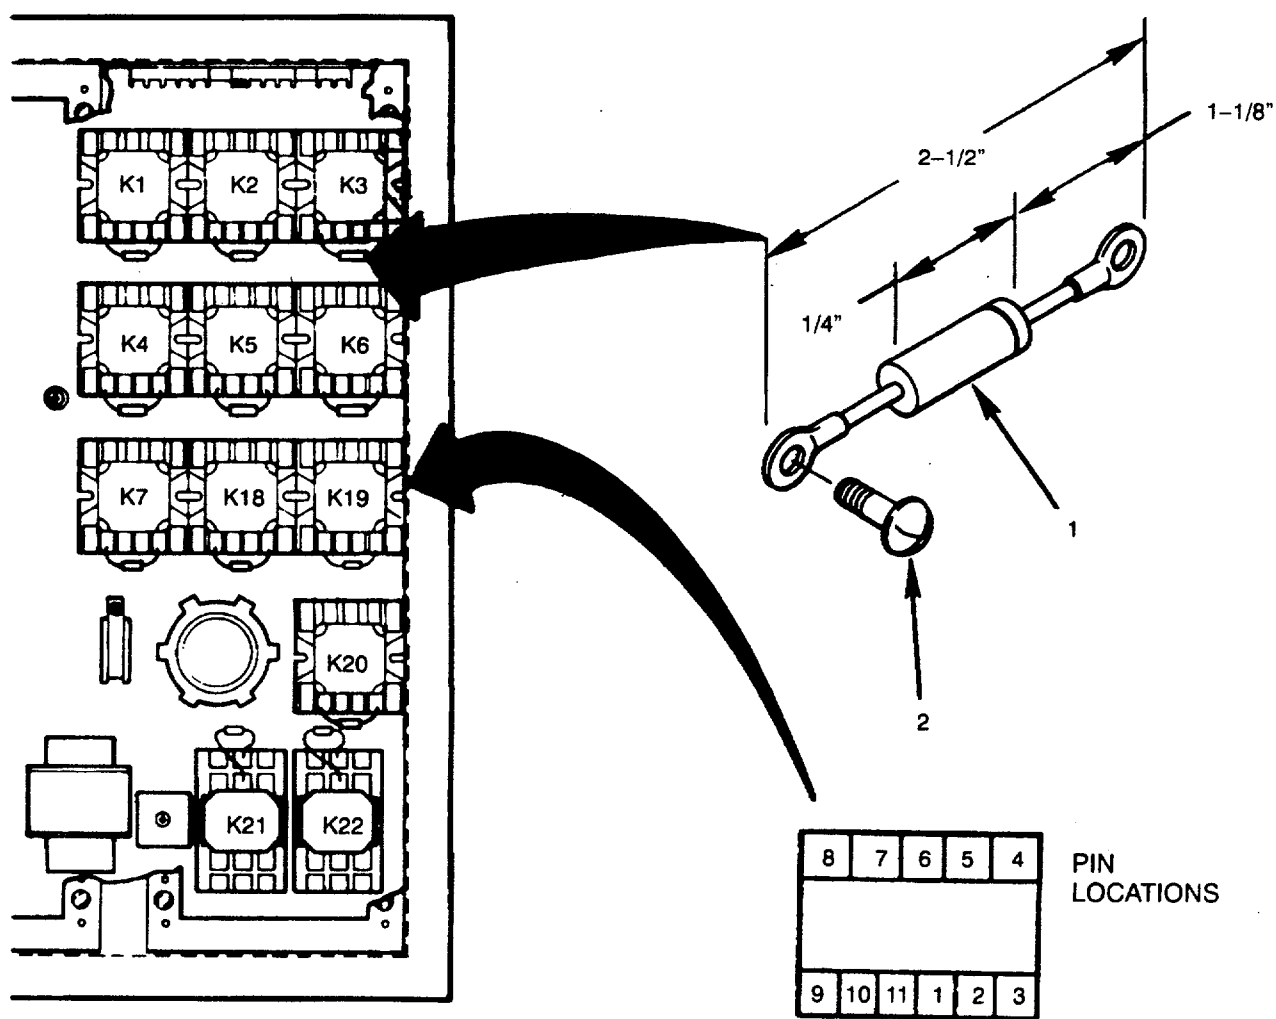

Figure 4-50. Suppression Diodes (CR2 - CR11)
1. Check diode for cracks, evidence of overheating, and other visible damage. Replace, if damaged (see Figure 4-50).